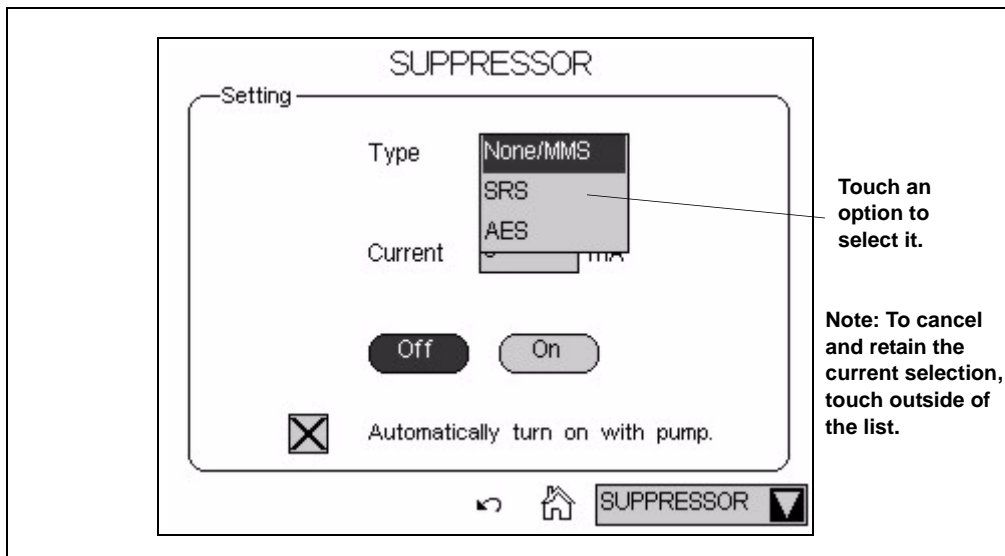

Figure C-5. Suppressor Page: Selecting an Option
- Touching  opens a list of options (see Figure C-5).